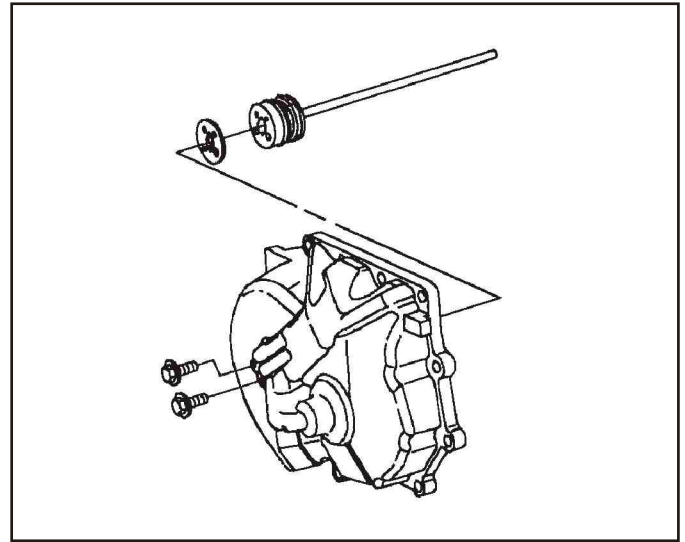

Figure 170
20. Install a new gasket into the rear cover for the lube, 1st and 2nd clutch flange as shown in Figure 170.
21. Install the flange into the rear cover over the gasket and install and tighten the two retaining bolts to 12 N•m (106 in. lbs). Make sure to line up the roll pin with the slots in the cover (See Figure 170).